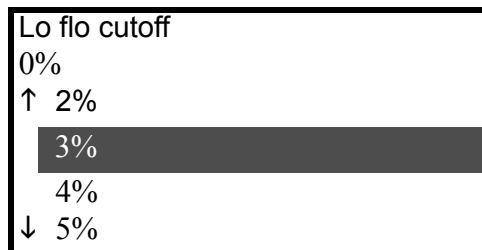

Figure 20 Setting of low flow cutoff
2. Once the display as in Figure 20 appears, use the up or down keys to select “OFF” or a value from 0% to 10%. After a selection has been made, press F4 (ENTER) to return to the Sensor Config menu. If F3 (ESC) is pressed here, the change will be aborted and you will be returned to the Sensor Config menu.